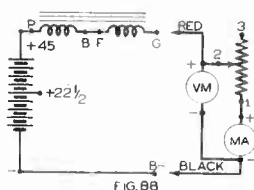

FIG. 88
**Apparatus Assembly:** 1. Connect the parts as shown in Fig. 88. Note the method which is suggested for attaching the red test prod to the positive terminal of the voltmeter while the black test prod is connected to the negative terminal of the meter. This will make it easier to use either meter later by itself, by removing only one wire as will be directed in the experimental procedures.
4. Restore the wire disconnected in Procedure No. 3, so both voltmeters are used together as in Fig. 88 for the first procedure. This time hold the test prods on terminals B— and B of Fig. 88.